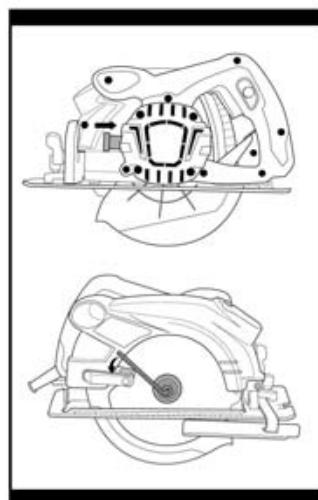

Fig. 6
7. CHANGER LA LAME DE SCIE (Fig. 6)